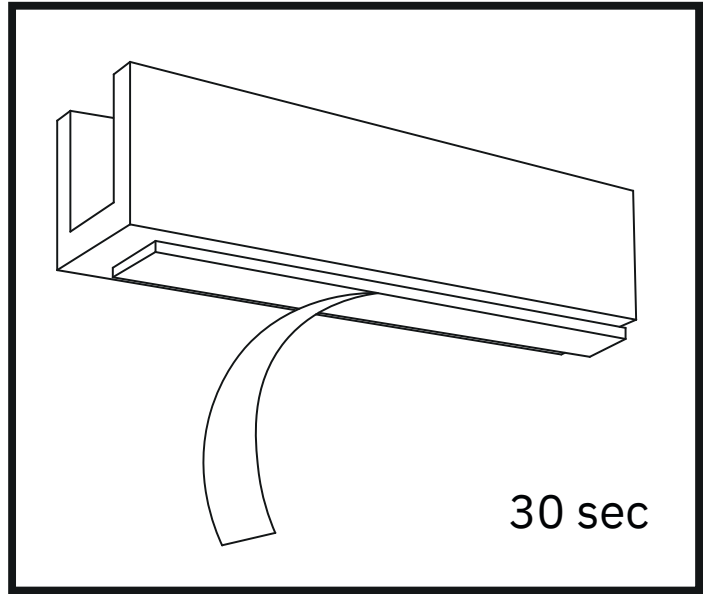

Figure 2
5. Remove the backing film from the double-sided tape on the profile and place the profile on the floor in the marked location. Press the lath firmly, holding the pressure for about 30 seconds. (Figure 2)